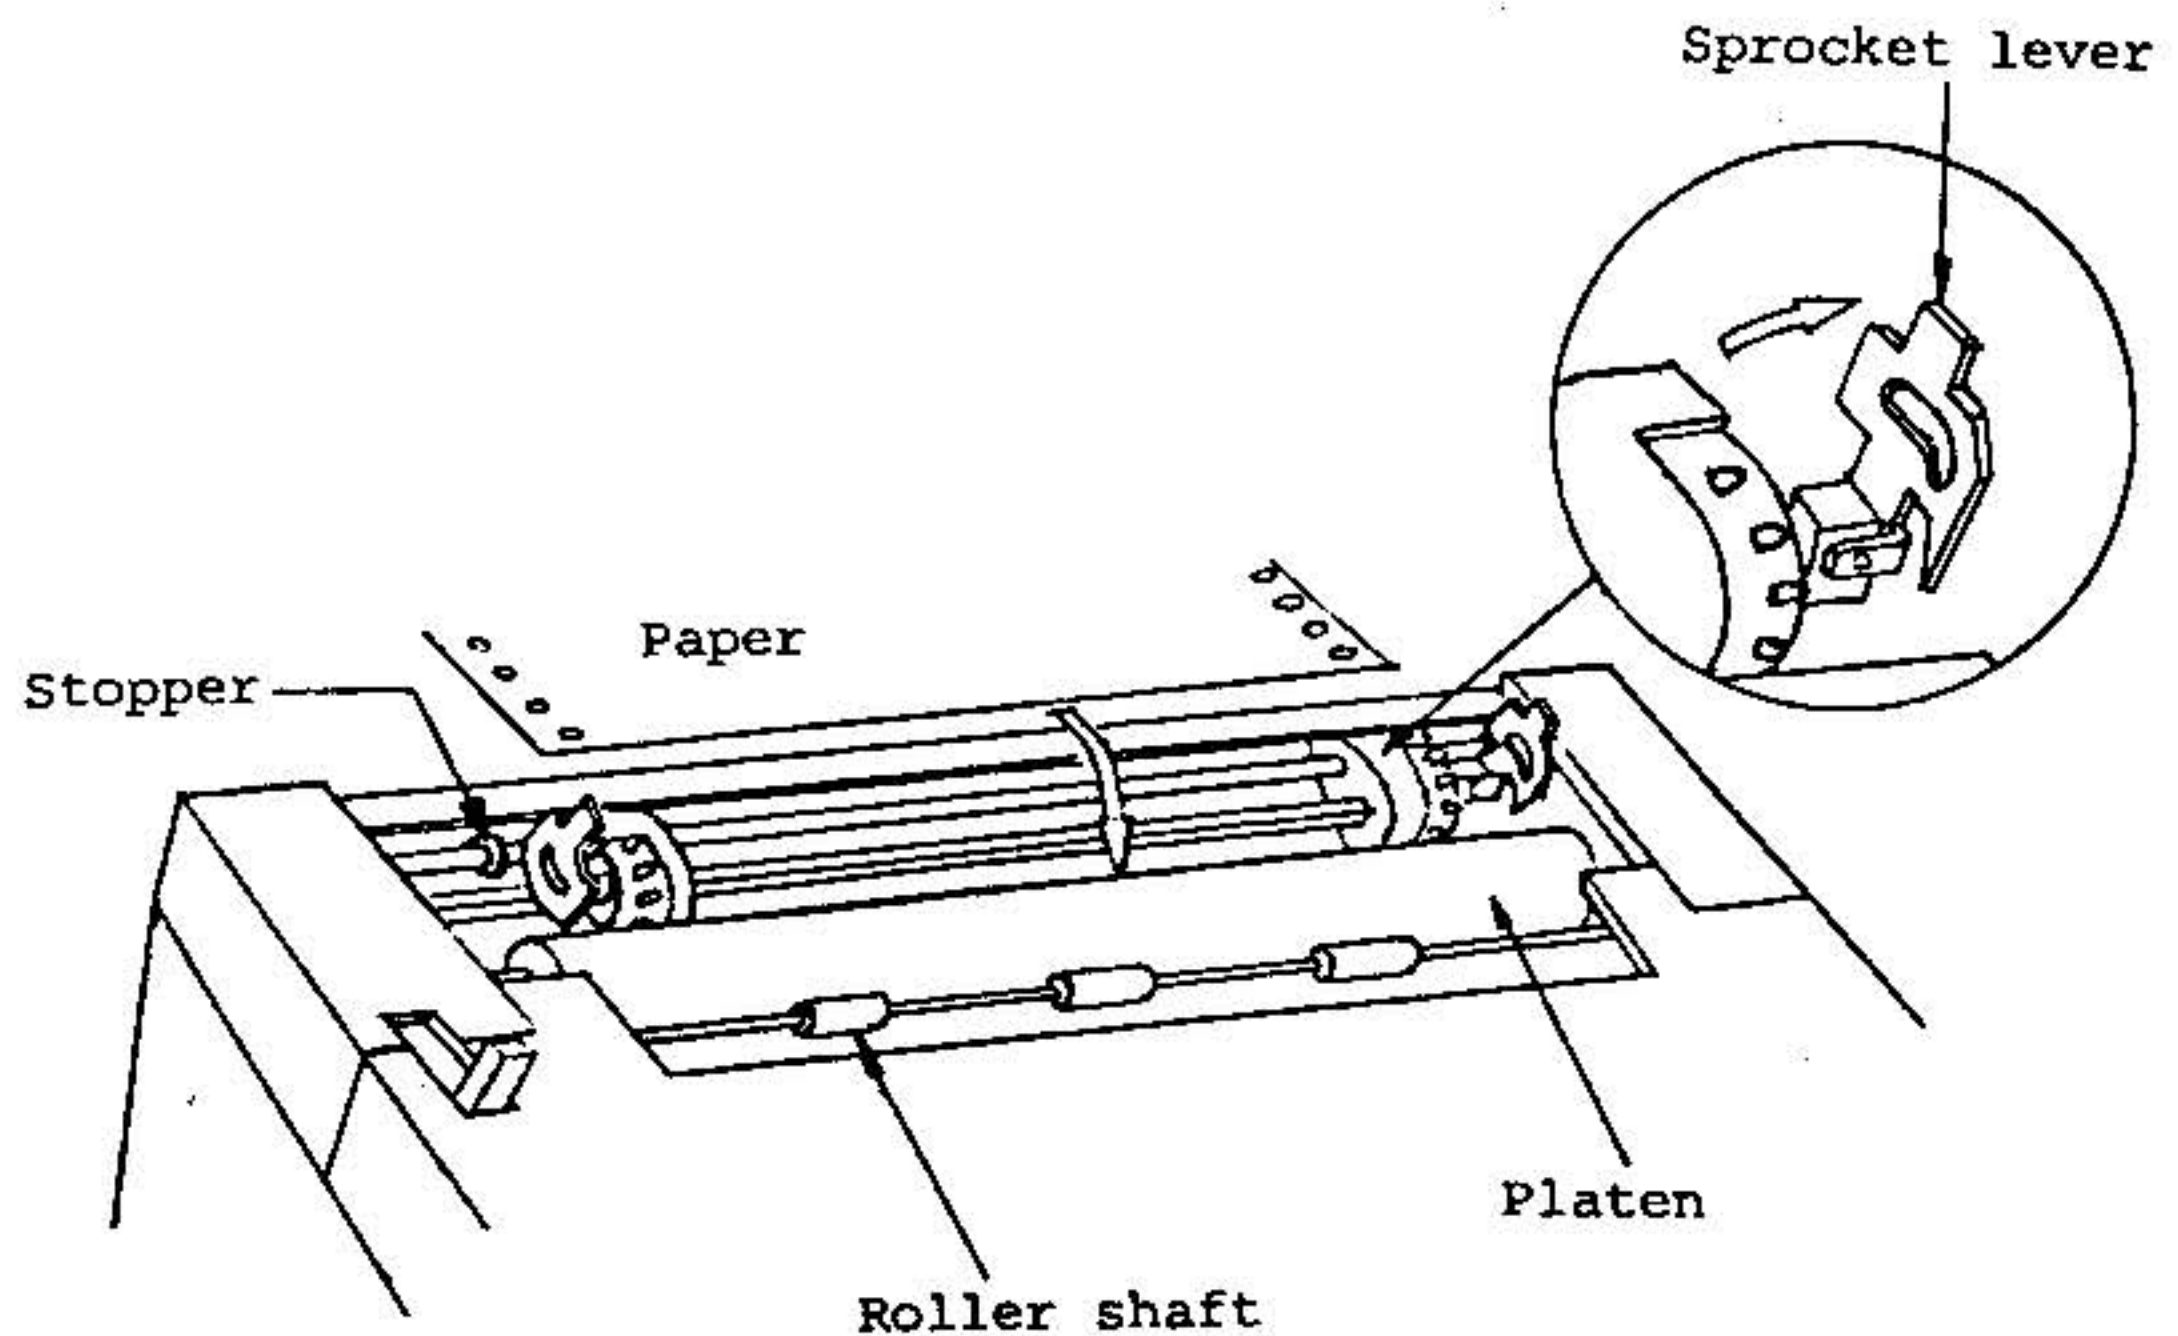

Fig. 10 Paper Insertion (1)
- (a) Next, lift up the paper clamps attached to the right and left sprocket tractors (refer to Fig. 10 ).